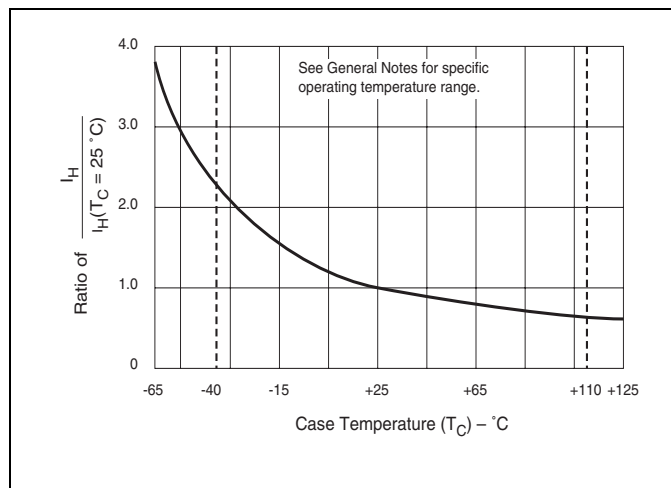

Figure E5.13 Normalized DC Holding Current versus Case Temperature
- See Figure E5.13 for IH versus TC or TL.